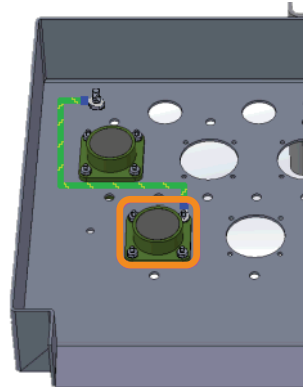

Figure 1 Install Ring Terminal
- Step 1. Install the 2-pin cable for input power in the bottom of the cabinet in the leftmost hole in the front row. Insert the receptacle from the inside of the cabinet and three of the four screws from the outside. Install the nuts on the screws from the inside of the cabinet. See *Figure 1*.
- Step 2. Install the smaller ring terminal of the green/yellow ground wire to the last connector screw and secure it with the last nut. See *Figure 1*.
- Step 3. Use the existing nut to connect the larger ring terminal of the green/yellow ground wire to the ground stud. See *Figure 1*.